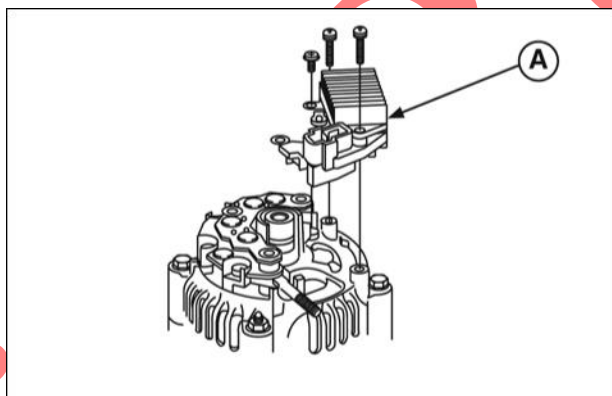

Figure 38
9. Assemble cover (A, Figure 38) to brush holder.